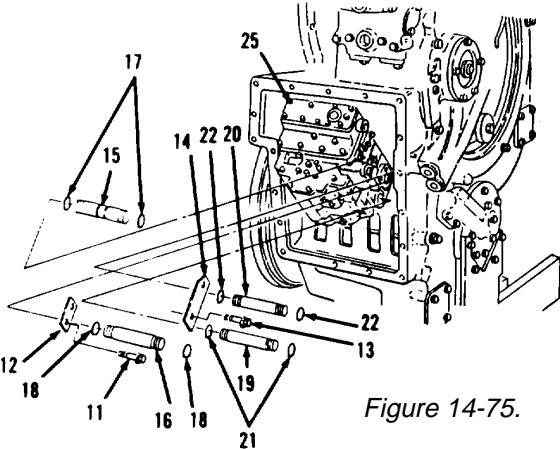

Figure 14-75.
3. Remove bolt (11) and plate (12, Figure 14-75).
4. Remove two bolts (13) and plate (14).
5. Slide sleeves (15 and 16) away from hydraulic control group (25).
7. Slide sleeves (19 and 20) away from hydraulic control group (25).
9. Attach lifting eye, control bracket, lifting bracket and ratchet assembly to transmission case and hydraulic control group (25).